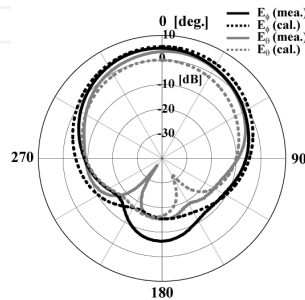

Fig. 5. Cellular energy harvesting antenna pattern at  $f_c = 2.15$  GHz.
The comparison between calculated and measured  $S_{11}$  is shown in Fig. 4 (right side). The 2nd and 3rd harmonics are suppressed as required by design. The comparison between calculated and measured radiation patterns is shown in Fig. 5, where  $E_\theta \cong E_\phi$  due to the 45° tilted surface current vector. Ordinarily, without notches, the surface current vector is parallel to the microstrip feeder axis. In conclusion, our proposed CMPA is sufficiently able to suppress higher order harmonics while simultaneously radiating a circularly polarized (CP) wave. The CP is required to efficiently receive the arbitrary polarization of the incident cellular signals at the rectenna.